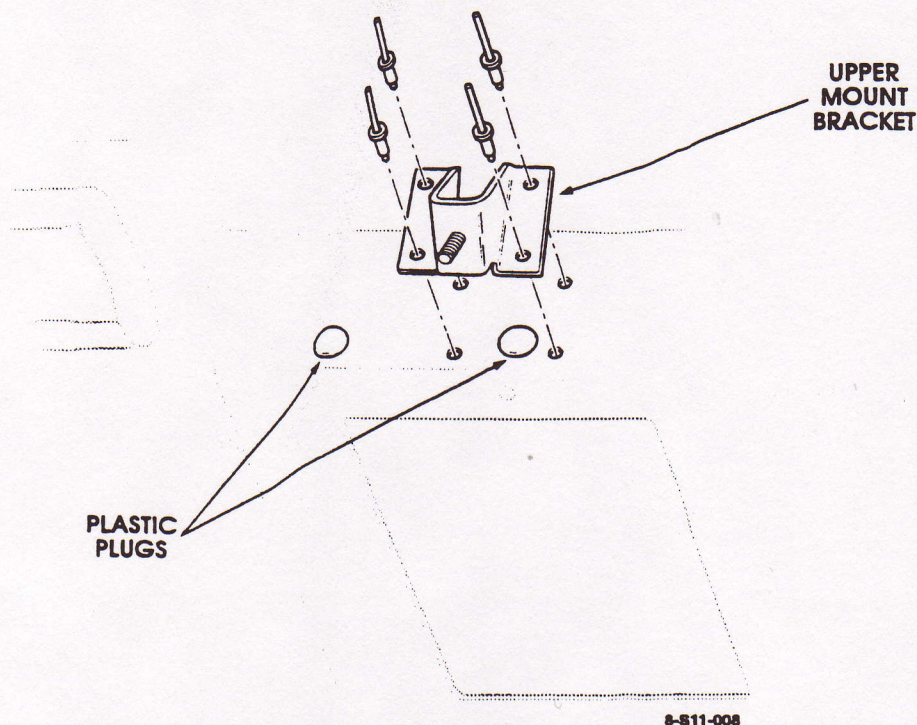

Figure 6: Upper Mount Bracket Position.
28. Position the upper HVAC mount bracket on the four previously drilled holes, indicated by template "A", with the stud angled downward and rivet in place (See Figure 6).